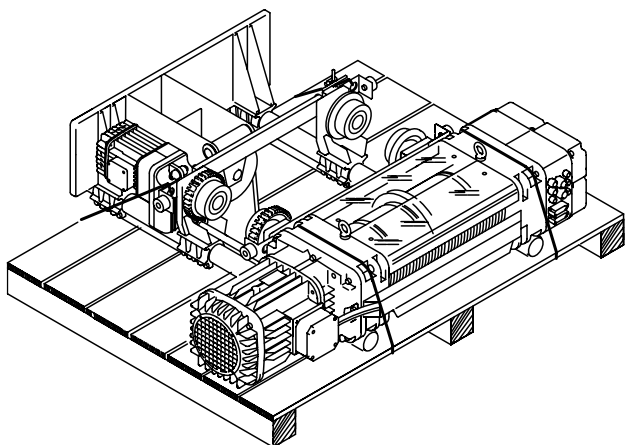

fig. 45
1. Where necessary, fit the hoist/trolley with any missing devices (controls). If the hoist/trolley has not been previously placed on the pallet, position it on the pallet and tie it firmly to ensure maximum stability (fig. 45).